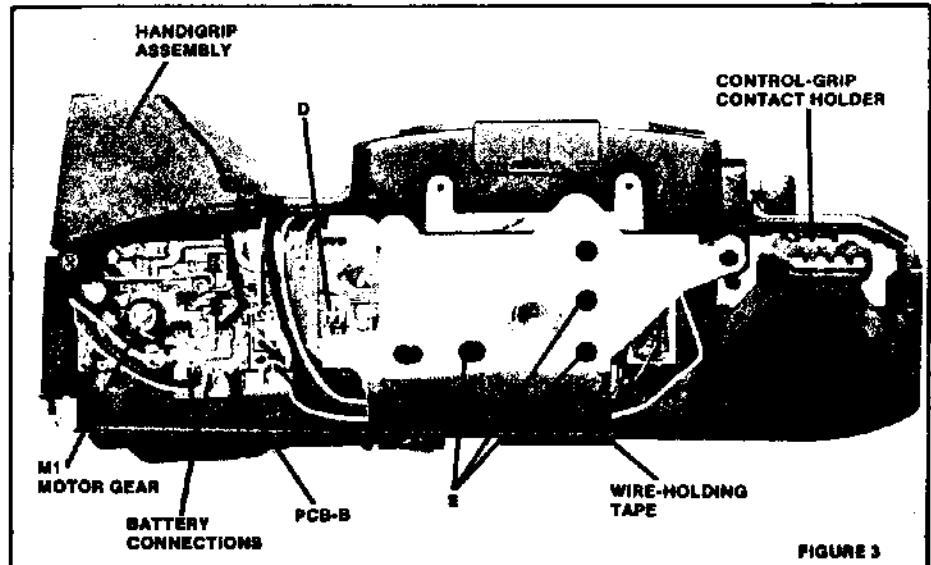

FIGURE 3
- Fig. 3—bottom cover removed
Note: To check SW4, rotate the motor gear, Fig. 3, from the bottom. Use a spanner that fits the two slots at the top of the motor gear.
- b. Rotate the M1 motor gear from the bottom, Fig. 3, in the reverse direction (CCW) to raise the mirror. SW4 should now be open, and the ohmmeter should show infinite resistance.
- c. After the mirror has reached the up position, start rotating the motor gear in the advance direction (CW). As you start turning the motor gear, you